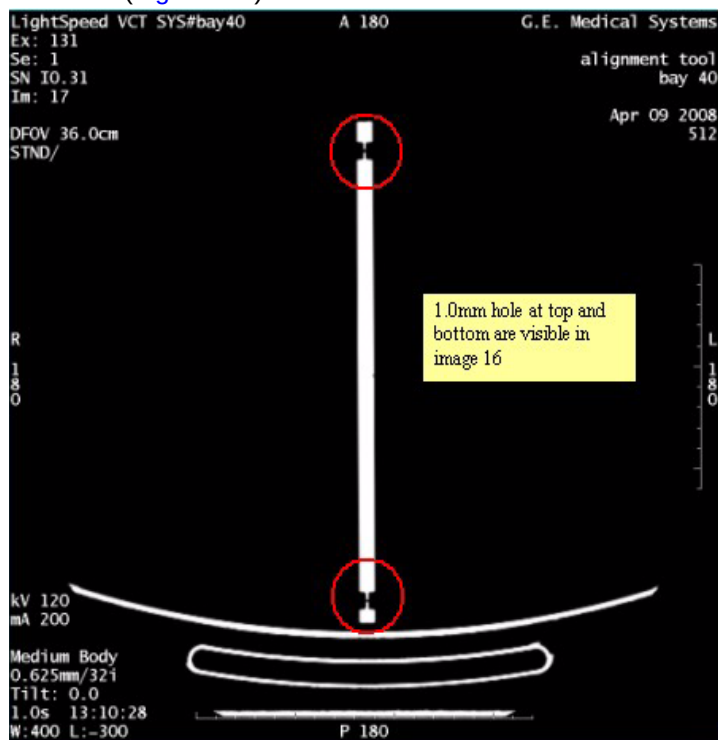
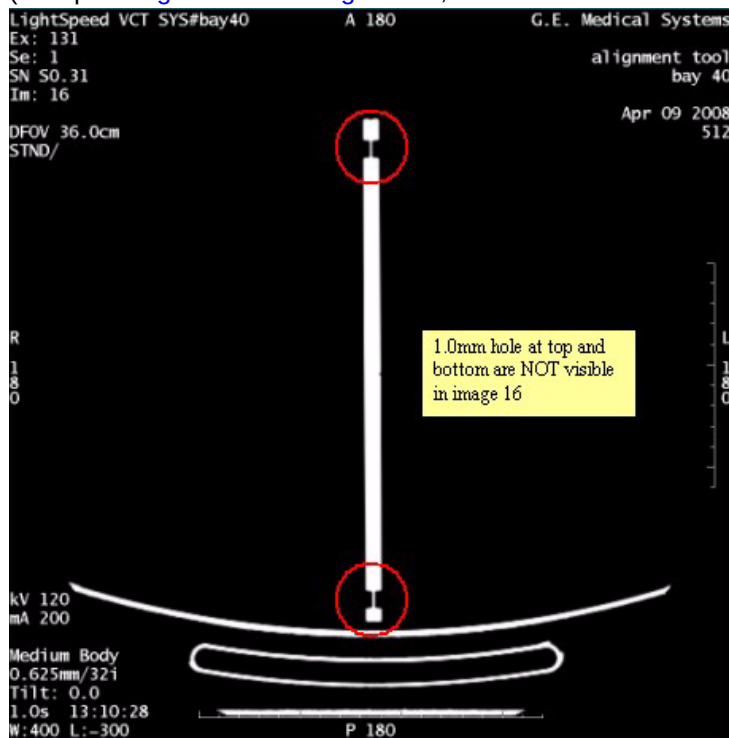

Figure 7-2 Holes Visible
Figure 7-3 Holes Not Visible
- d.) Scroll through the images (using [Page Up] or [Page Down]) until the holes are visible (Figure 7-2).
(Compare Figure 7-2 with Figure 7-3, where the holes are NOT visible.)